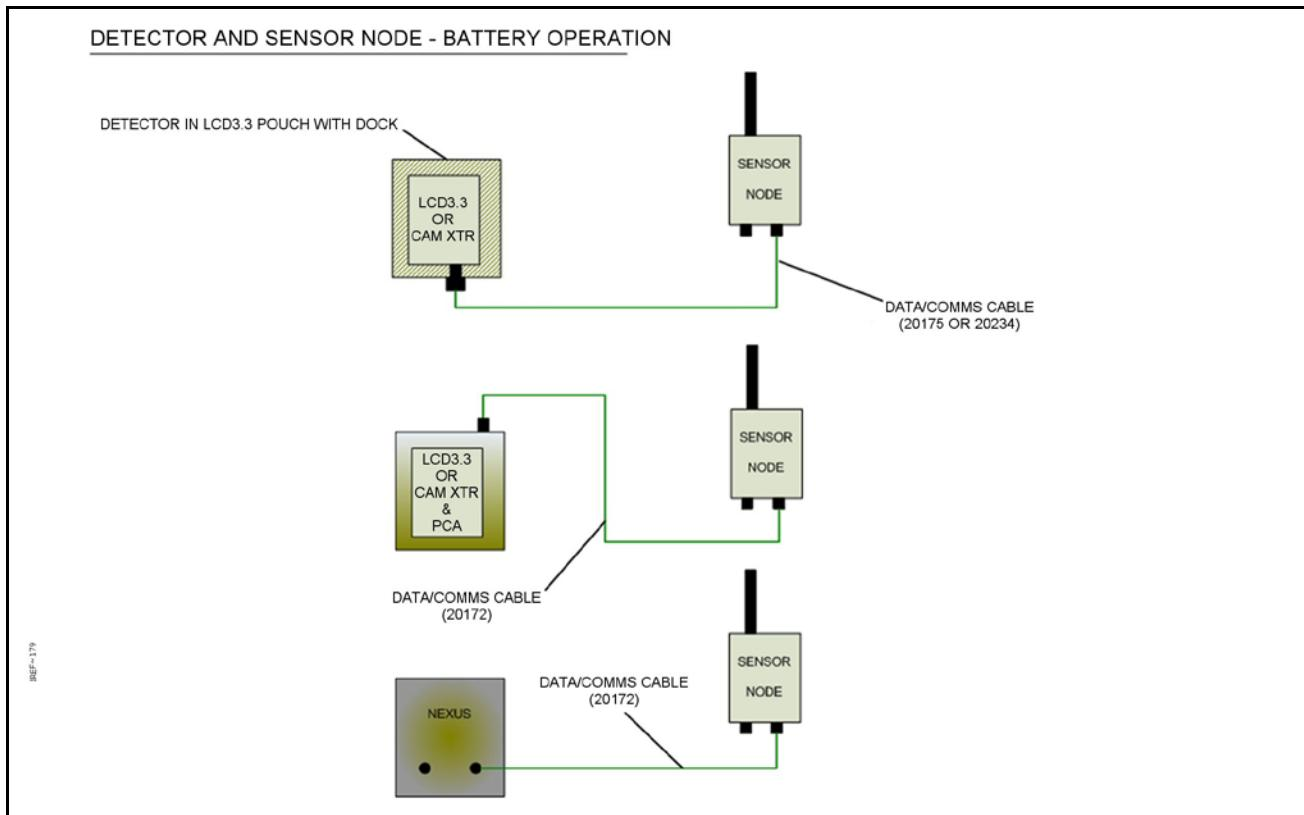
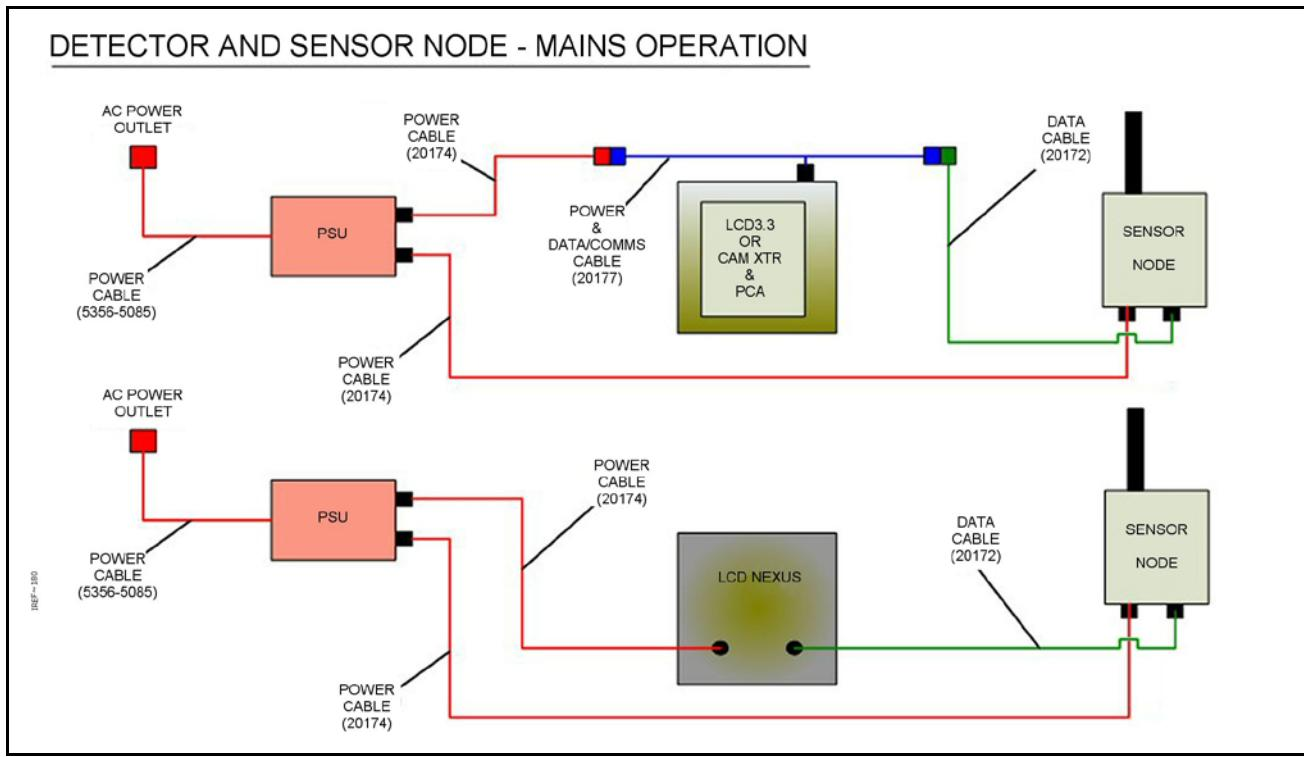

Figure 30 Interconnection Diagram for the Sensor Node using Battery Power
Figure 31 Interconnection Diagram for the Sensor Node using Mains Power
A Sensor Node is the point at which a detector is to be setup as a node on the Sensa-LINX Detector Networking System. Use the following information as a guide to setting up a Sensor Node for the Sensa-LINX Detector Networking System. Equipment for this location is provided as part of the Detector Sensor Node Kit. The detector Sensor Node set up varies slightly depending on which detector is being used and if an external power source is to be used. There is, however, no significant difference to the set up whether the sensor node is to be secured in a fixed location, secured to a vehicle or worn as personal equipment. Refer to Figure 30 and Figure 31 below for further cable and connector information.
- 7 Using the appropriate Data (Comms) cable provided with the Detector Sensor Node Kit, connect the connector on the LCD3.3 Pouch with Dock, PCA or NEXUS detector or CAM XTR to Connector 3 on the Sensor Node. Refer to Figure 30.
- 8 If an external power supply is available and is to be used, use the PSU or DC to DC Adaptor (see Figure 11) and relevant cable to connect an external supply to Connector 1 on the bottom of the Sensor Node. Refer to Figure 31.